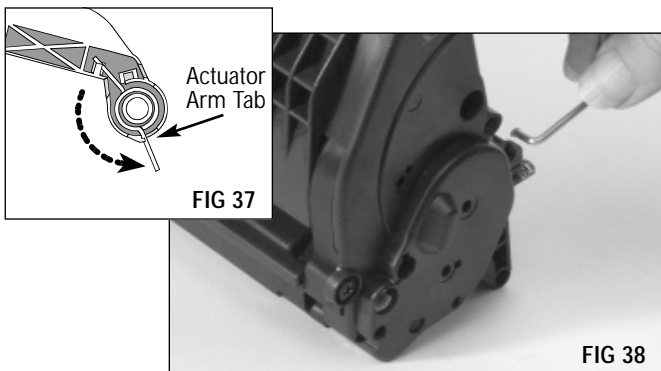

FIG 37
- 15.** Install the drum shutter. Make sure the Actuator Arm Spring (4KDSAS) is properly positioned in the actuator arm. Use a pair of needlenose pliers to rotate the leg of the spring and set it behind the tab (FIG 37). A replacement spring is available if the original spring is lost or damaged.